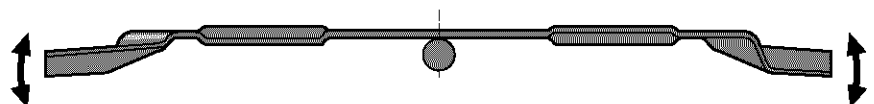

Figure 5-6: Balance blade on pivot to check blade balance.
4. To check blade balance, place the blade on a rounded pivot such as a pencil or pen under the center hole. Hold blade parallel to ground then release. See Figure 5-6. If blade is unbalanced, the heavier side will lean downward.